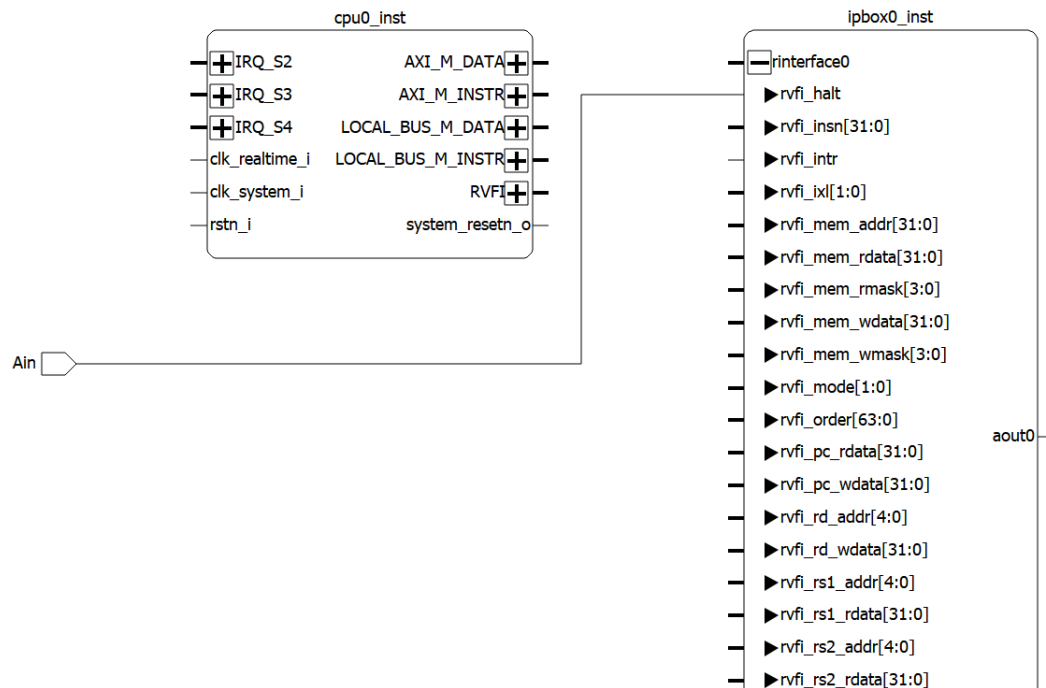
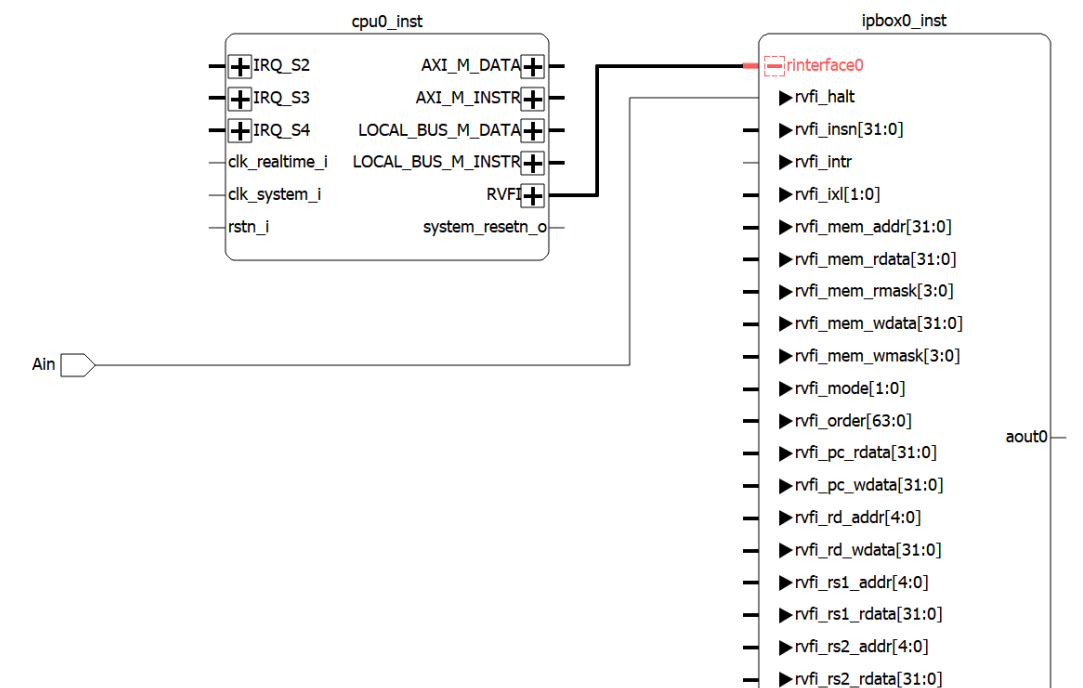

Figure 2.82. Individual Port Connection within Bus Interface (1)
Figure 2.83. Individual Port Connection within Bus Interface (2)
6. Individual ports are allowed to connect within bus interface (Figure 2.82 and Figure 2.83).